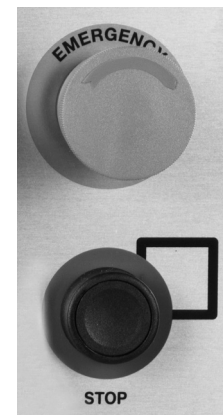

Figure 9-4.
- When the ingredients have been thoroughly mixed, press the STOP button to stop the mixer. See Figure 9-4.